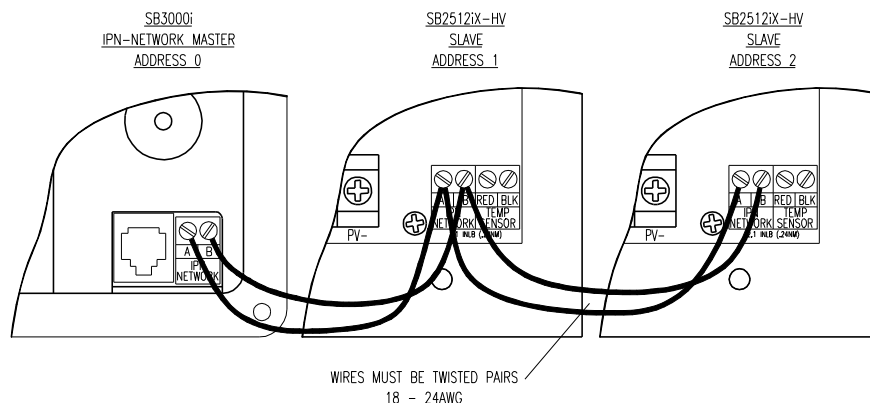

FIGURE 6
The 3000i may also serve as an IPN Network Master controlling up to 7 remote IPN Network compatible Slaves. Any Blue Sky Energy charge controller capable of operating as an IPN Network Slave may be used, and as of this writing include; SB3024i SB3024Di, SB3024iL SB3024DiL, SB2512iX, SB2512iX-HV, and SB1524iX. Another 3000i cannot be used. Controller types and their PV modules may be different. Each controller is installed as a separate standalone charging source connected to the battery and are then networked together. The 3000i serves as the charge control and network communication Master, controls the charging process, and directs the activities of one or more Slaves. No additional communication hardware or software is required to setup or operate the network. A network communication link is established between controllers by daisy chaining a twisted pair cable from the IPN Network terminal block, controller to controller (A-to-A, B-to-B) as shown in Figure 6. Up to 8 IPN based charge controllers can be connected together in a multi-controller system. The 3000i is fixed as device address 0 (zero) and serves as the IPN Network Master. Attached controllers are configured as Slaves set to addresses 1 through 7. If an optional battery temperature sensor is used, only one is required and it must be connected to the 3000i (Master) to be recognized and shared. Optional displays or UCM may connect to any controller on the network.
- 5) All controllers must be connected to the IPN network as shown in Figure 6.